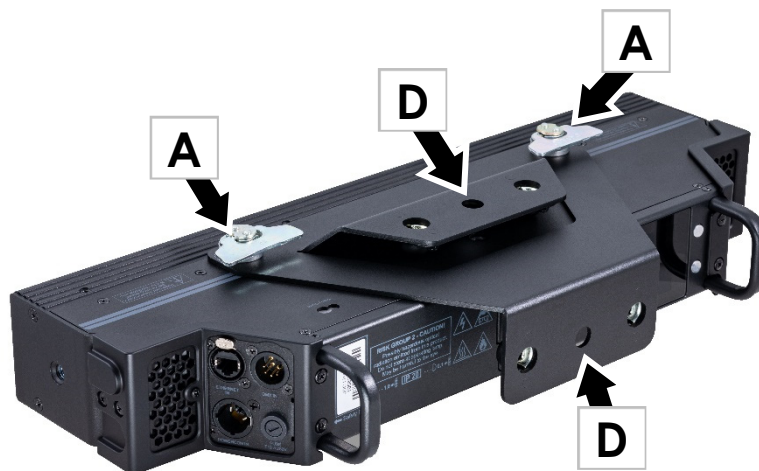

Figure 7. Mounting on a surface using the Rigging Bracket
2. See Figure 7. Fasten a Rigging Bracket to the fixture using the bracket's quarter-turn fasteners **A** as described on page 14.